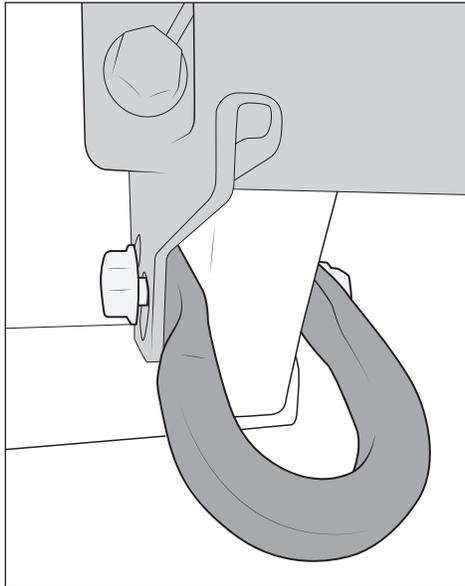

Figure 8
4. Reinstall tow hooks using factory hardware (fig. 8).